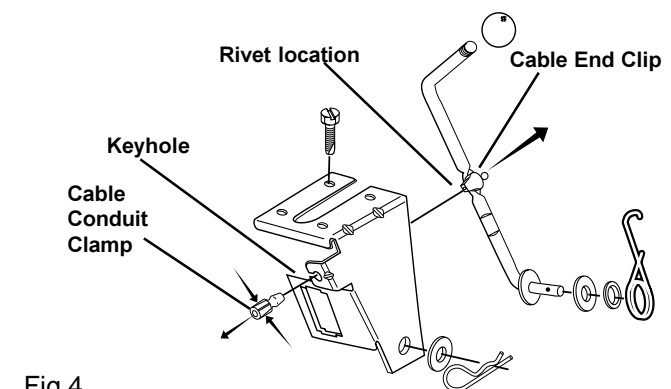

Fig 4
- Unsnap cable end clip from rivet head on side of lever. See Fig 4.
- Place the lever in the engaged position. Snap the cable end clip over the rivet head on the mower engagement lever. Fig.4. Place the lever in the disengaged position. Pass the cable through the keyhole slot in the clutch bracket and push the lever forward until the cable fitting snaps into place.